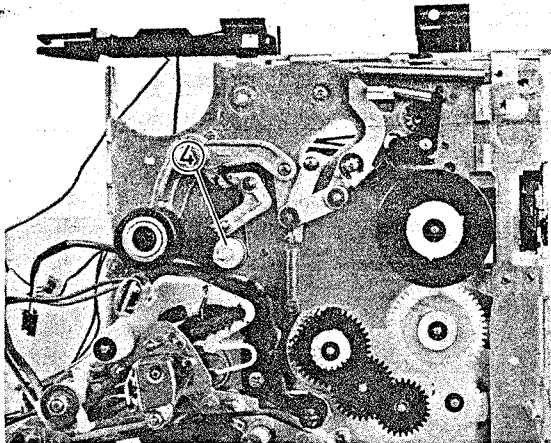

Fig. 2-107 Capstan Flywheel Removal
4. Remove one (1) washer and pull out the capstan flywheel. (See Fig. 2-107)